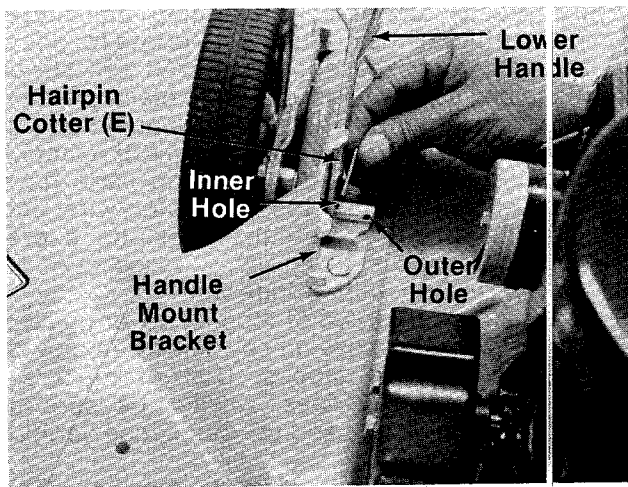

FIGURE 2.
- A (1) Rope Guide Bolt
- B (1) Curved Carriage Bolt
- C (2) Lock Washers 5/16" I.D.
- D (2) Hex Nuts 5/16-18 Thread
- E (3) Hairpin Cotters
- F (1) Ferrule
- G (2) Cable Ties
3. Attach the lower handle by placing the bottom holes in the lower handle over the weld pins on the handle mount brackets. The hole in the lower handle which is for the clutch rod must be on the **left** side of the handle. Secure with hairpin cotters (E) in inner holes on weld pins. See figure 2.